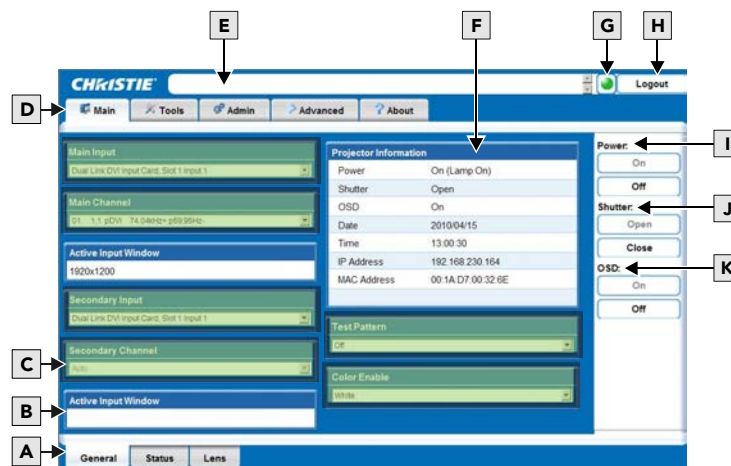

FIGURE 4-3 MAIN WINDOW
4. Click the **Login** button. The **Main** window (see Figure 4-3) appears.
The following table describes each area found in the Main window. See Figure 4-3.
Under the **Main** tabbed page, select the **General** secondary tab to view general information about Inputs, Channels, Projector Information, Test Pattern, and Color Enable (see Figure 4-3). For detailed information refer to Section 3 Operation.